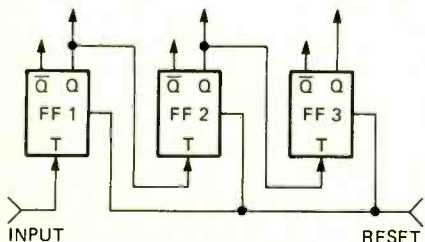
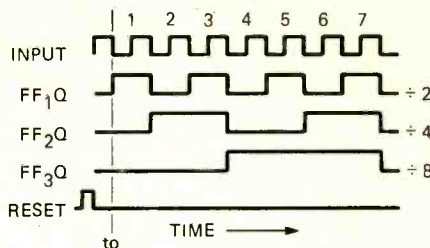

FIG. 7—DIVIDING BY EIGHT is easy. Use three "T" flip-flops connected as shown.
FIG. 8—TIMING DIAGRAM shows the instantaneous relationship of Input to the outputs.
To see how a circuit containing only three type T flip-flops can be used for counting and frequency division, see Fig. 7. Fig. 8 is a timing diagram which shows the relationship of the flip-flop outputs (Q) to one another and the input signal.
causes FF2 to change from a 0 to a 1, again with no effect on FF3. To see how the input signal pulses effect the various flip-flops and the resulting outputs, refer to Fig. 8 and trace the input signal through the remainder of the cycles shown.
The timing diagram in Fig. 8
In addition to frequency division, the flip-flop chain shown in Fig. 7 is extremely useful as a counter. For example, consider the outputs of all three flip-flops after three input cycles:
011 is the binary equivalent of the decimal 3, the number of input cycles which have occurred. This shows that the flip-flops have counted the number of incoming pulses and have recorded the number by placing the least significant digit in FF1 and the most significant in FF3. The counting operation can be verified by checking the output states during the sixth cycle (see Fig. 8):